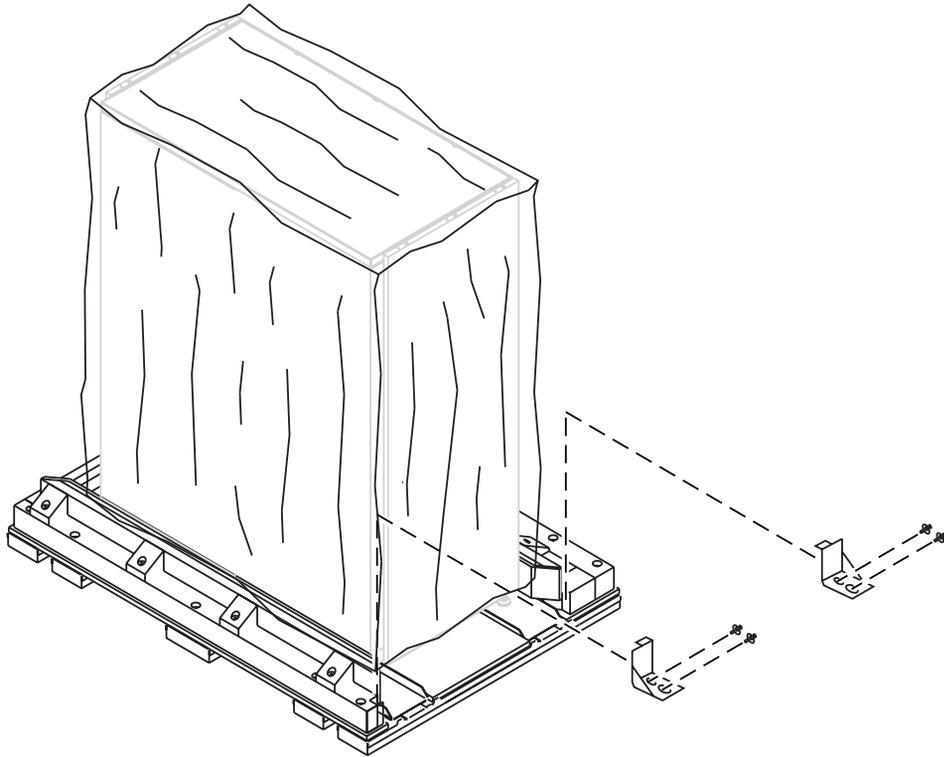

Figure 4-7: Removing the stop blocks
12. Remove the two stop blocks from under the right side of the library (see Figure 4-7).